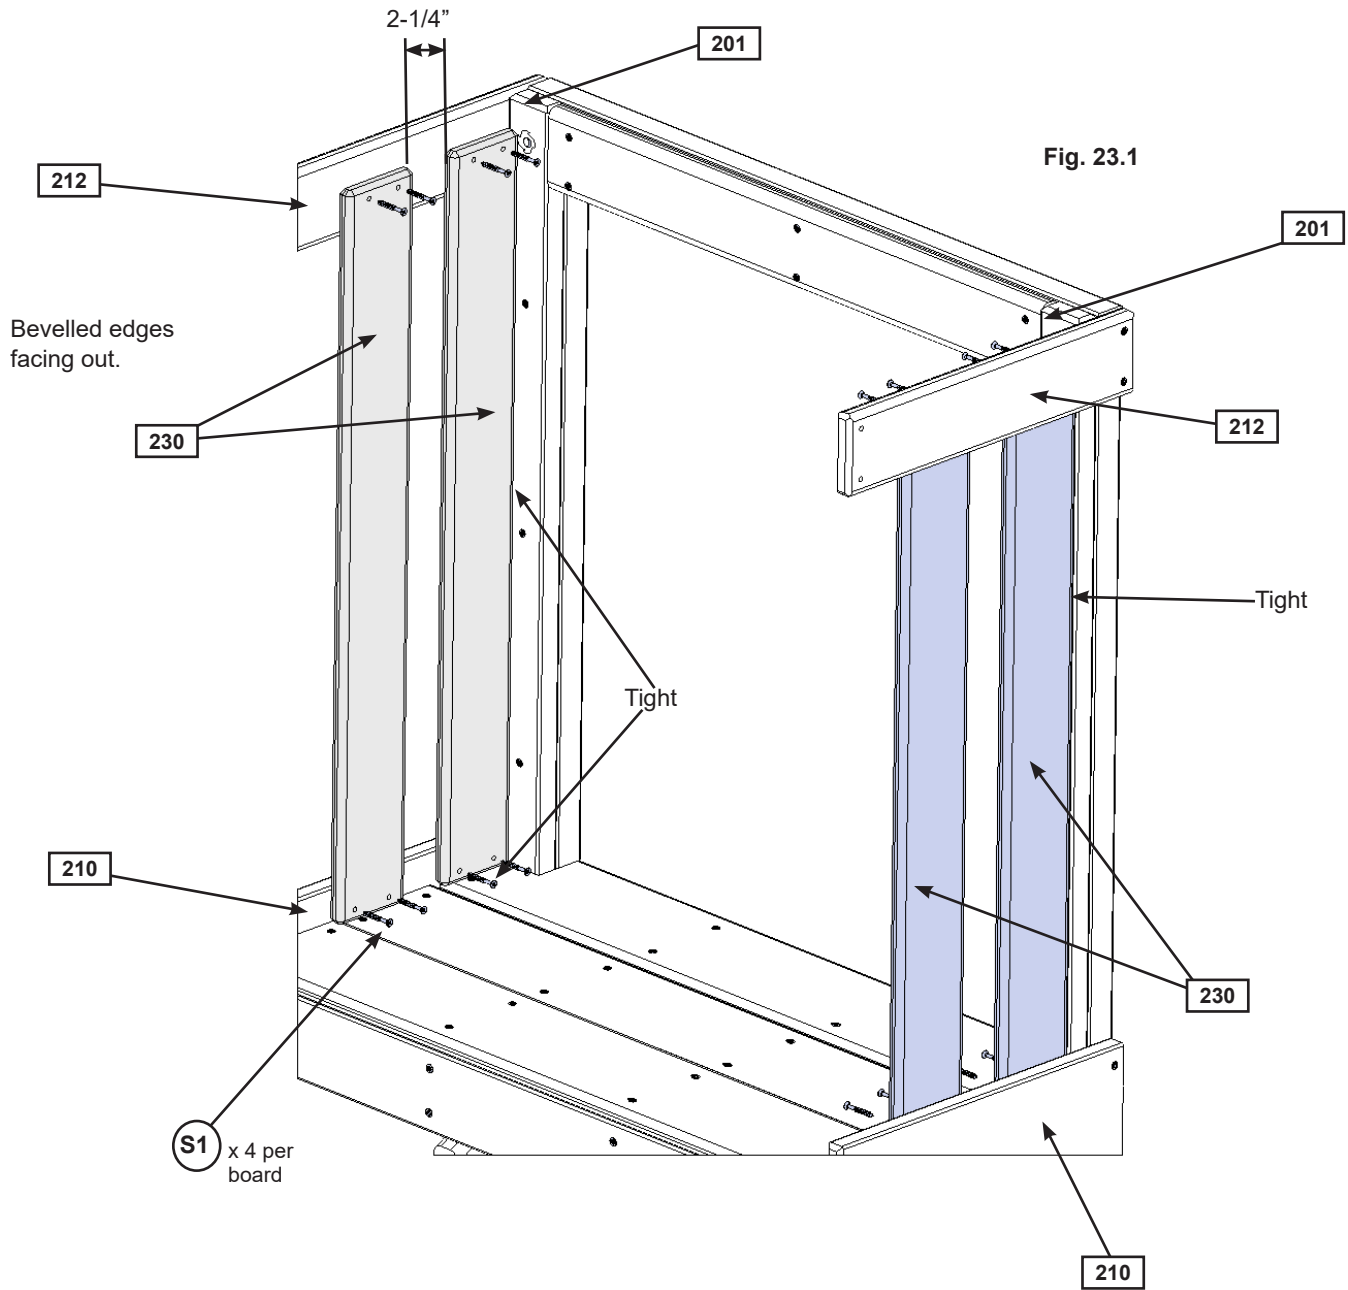

Fig. 23.1
A: Tight to each (201) Upright Crowsnest and tight to the floor and gap boards attach 1 (230) Cedar Wall to each (210) Crowsnest Bottom Side and (212) Crowsnest Side with 4 (S1) #8 x 1-1/8" Wood Screws per board. (fig. 23.1)
B: Measure 2-1/4" from each (230) Cedar Wall then attach another (230) Cedar Wall per side, tight to the floor and gap boards using 4 (S1) #8 x 1-1/8" Wood Screws per board. (fig. 23.1)